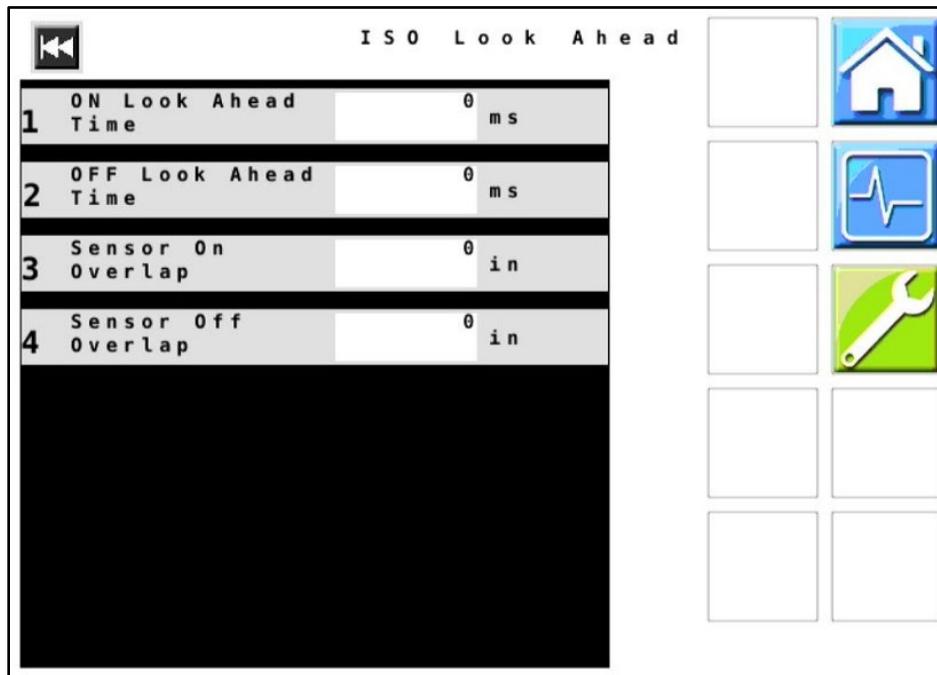

Figure 21 — ISO Look Ahead
42. **Figure 21:** Verify that all values displayed on your unit match those shown here. ISO Look Ahead settings are generally governed by the Task Controller attached. If preferred, the Look Aheads set on the Task Controller can be disabled and these values can be modified to take Look Ahead information from the PinPoint III.